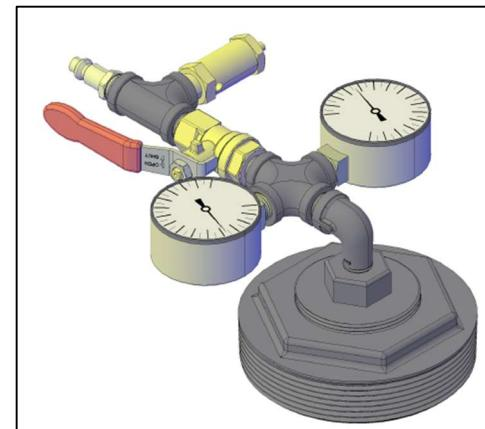

Figure 1 – FTS-Supplied Test Manifold
1.2.1. On double-wall dry tank, FTS ships the tank factory-equipped with a test manifold attached to the dry interstitial monitor fitting that may be used for pressure testing a primary tank. See Figure 1 and the layout drawing at the end of this document. Layout drawings for the test manifold are also available on the FTS website.